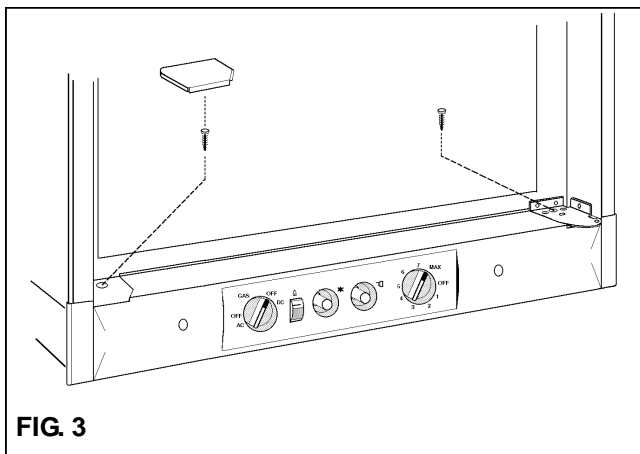

FIG. 3
1. Secure the refrigerator to the floor with two screws: One screw through the hinge and into the floor, and on the opposite side one screw through the front base. (See fig. 3).
2. A cover plate (shipped as a loose part) is to be attached after the refrigerator is secured in the enclosure. (See fig. 3).